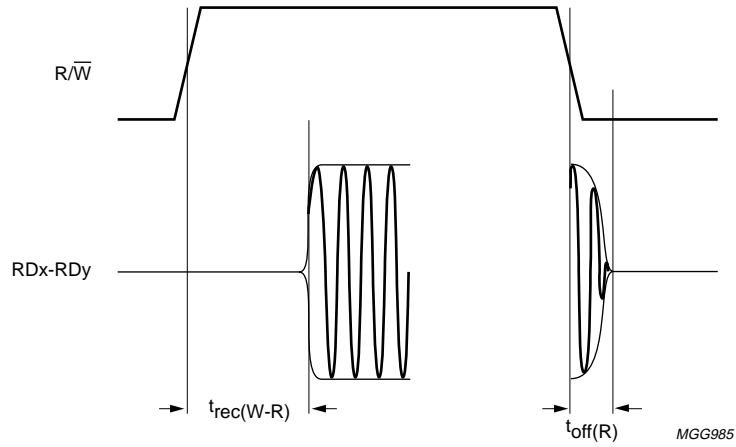

Fig.6 Timing diagram of the reader: write-to-read switching on the same logic head.
10. Write-to-read recovery time includes the write mode to read mode switching using the R/\bar{W} pin on the same head (see Fig.6). The AC signal reaches its full amplitude few tenth of ns after appearing at the reader RDx and RDy outputs.